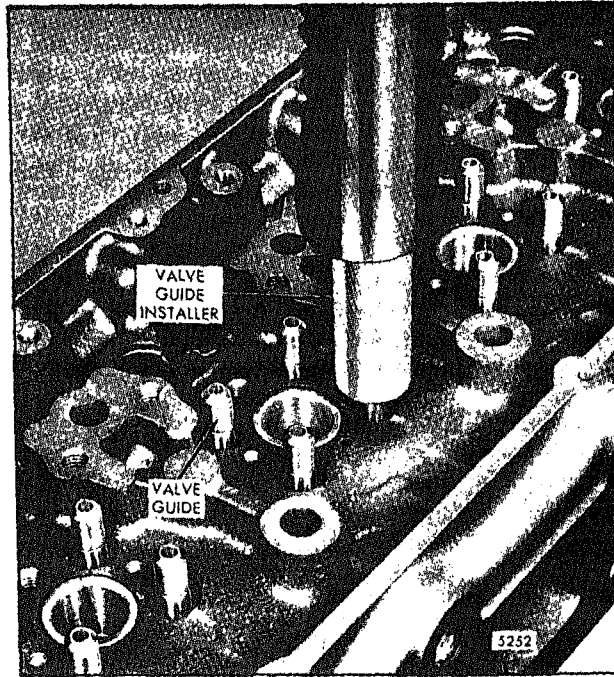

Fig. 6 - Installing Valve Guide
2. Position the valve guide squarely in the bore in the cylinder head and press the installing tool gently to start the guide in place (Fig. 6). Then press the guide in until the tool contacts the cylinder head (the bottom of the counterbore in the four valve cylinder head).